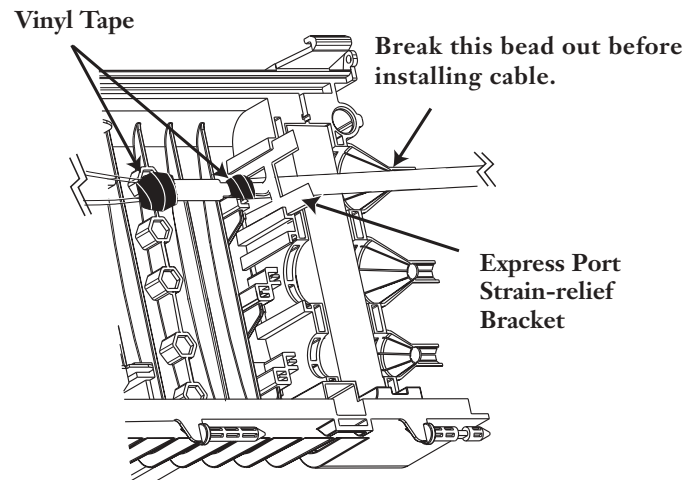

Figure 10 — Install Express Cable
Step 4 Remove bead from express port cones being used. Install both sides of the cable sheath into the top express ports and slide the strain-relief bracket into the groove on the bottom shell of the terminal (Figure 10).